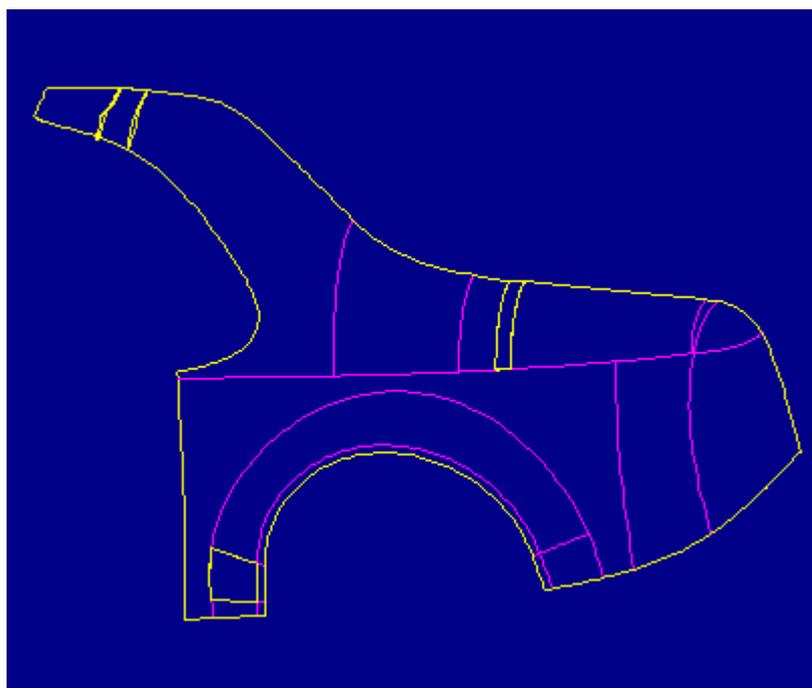
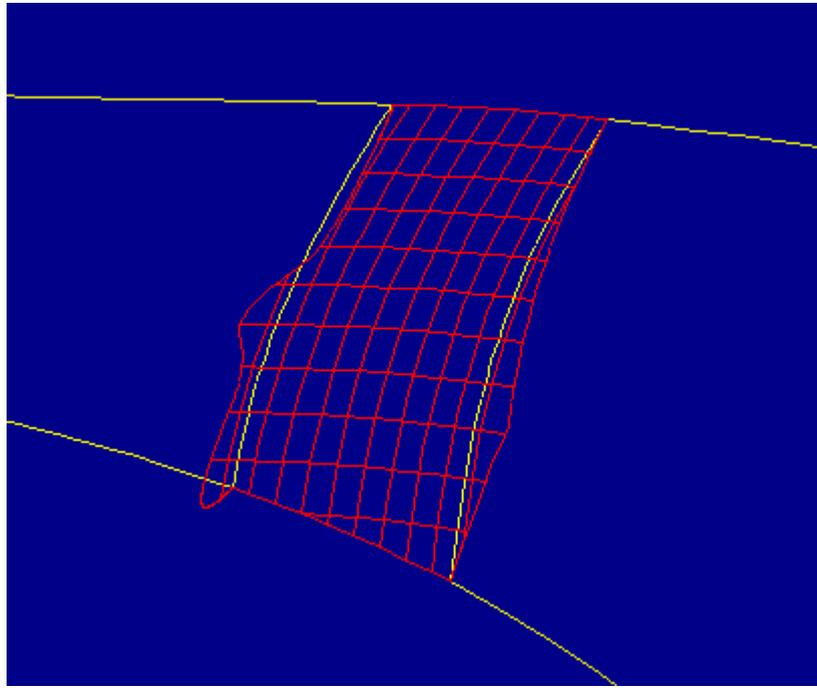

Figure 27
Figure 28
19. Figure 27 shows the current status of the import feature. The next area to be addressed is shown in Figure 28. Notice that the yellow edges belonging to the adjacent surfaces are very similar to the red isolines.